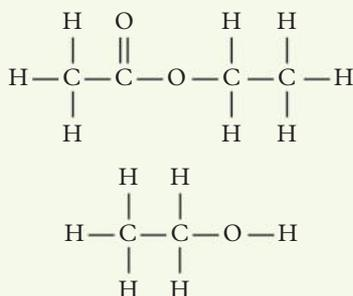

FIGURE 9 Molecular structures of ethyl ethanoate (an ester) and ethanol (an alcohol)
- 3 A chemist is separating a mixture containing esters and alcohols (see Figure 9). Determine which substance will have a stronger affinity for a polar mobile phase.